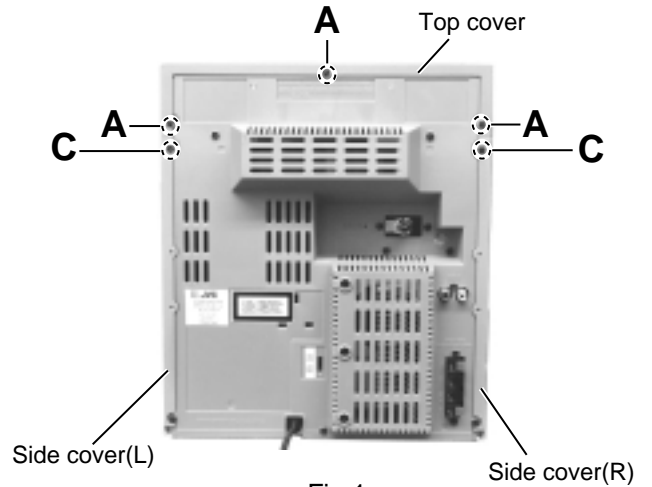

Fig.1
■ Removing the top cover and the side covers (See Fig.1 to 3)